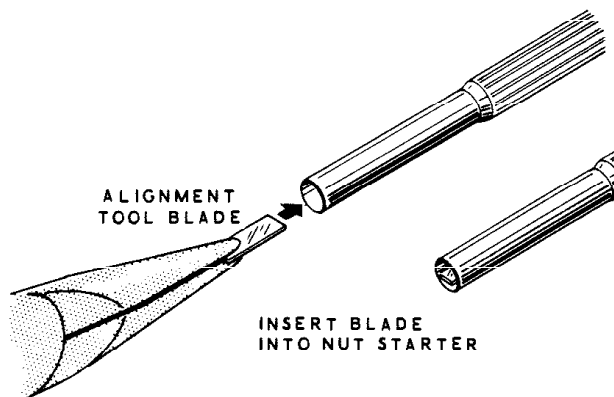

Figure 1
- () Locate the alignment tool blade supplied with this kit. Refer to Figure 1 and use a pair of long-nose pliers. Insert the blade into the smaller hole of the nut starter until the blade end is flush with the end of the nut starter. This now can be used as a trimmer alignment tool.